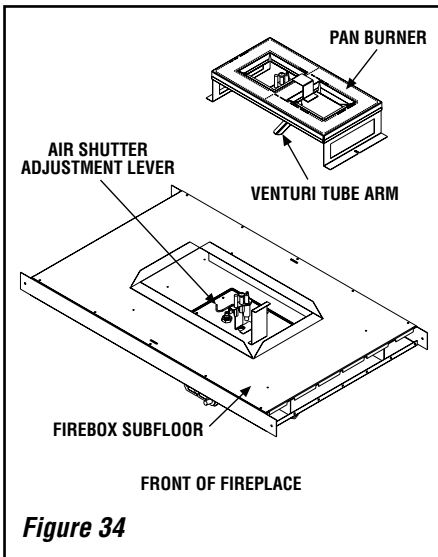

Figure 34
Step 3. Referring to **Figure 34**, remove the burner.
Step 8. (Refer to **Figure 34**)
Ensure that the arm of the venturi of the burner is hooked onto the air shutter adjustment lever (refer to *Figure 34 on page 26*). The primary air opening can be adjusted by rotating the adjustment lever from beneath the firebox floor. Refer to *Figure 31 on page 22* for the recommended minimum primary air opening setting.